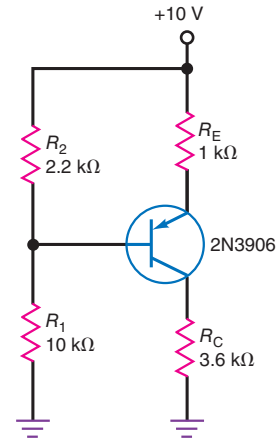

Figure 33-54
- 33.14 What is the collector voltage in Fig. 33-54?
- 33.15 What is the collector-emitter voltage in Fig. 33-54?